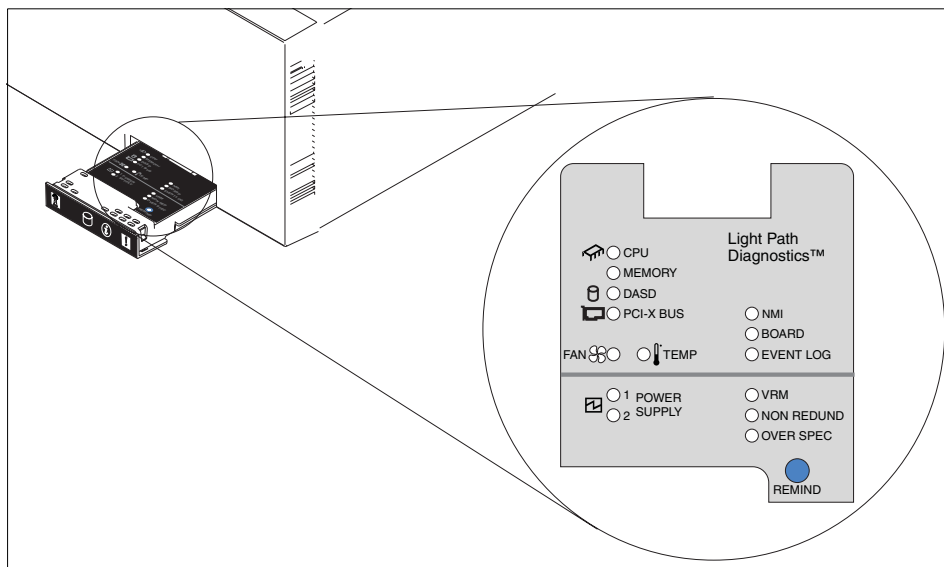

Figure 1-14 Light Path Diagnostics panel on the x440
As illustrated in Figure 1-14 on page 26, Light Path Diagnostics is able to monitor and report on the health of CPUs, main memory, hard disk drives, PCI-X and PCI slots, fans, power supplies, VRMs, and the internal system temperature.
1. Level 1 is the pop-out panel as shown in Figure 1-14.
The pop-out panel (Figure 1-14) also has a Remind button. This places the front panel system-error LED into remind mode, which means it flashes briefly every 2 seconds. By pressing the button, you acknowledge the failure but indicate that you will not take immediate action. If a new failure occurs, the system-error LED will turn on again. The system-error LED remains in the Remind mode until one of the following situations occurs: